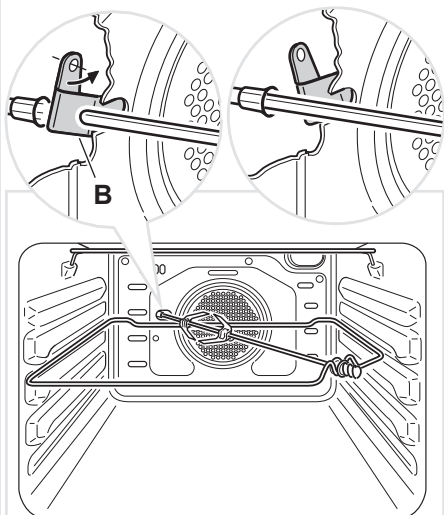

Fig. 3.4
## MODELS WITH PLURIFUNCTION / MULTIFUNCTION WITH ROTISSERIE OVEN (figs. 3.4, 3.5)
- Insert the rod into the motor opening by moving to the right the baffle "B" (figs. 3.4, 3.5). It is correctly fitted only if the rod does not turn when inserted. It will then rotate only when the spit motor is operating (check the right rotation of the rod).